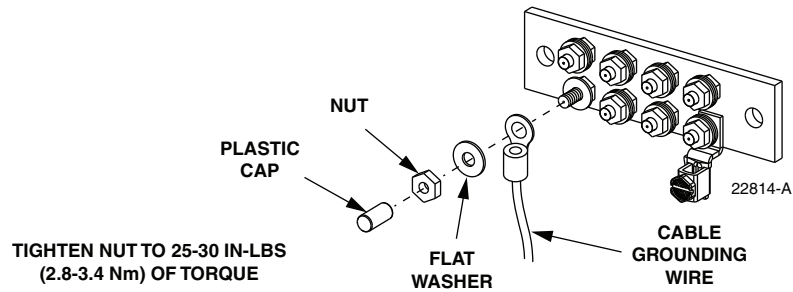

Figure 36. Connecting Grounding Cable to Grounding Block
3. Remove the protective plastic cap, nut, and flat washer from one of the grounding studs on the grounding block as shown in Figure 36.